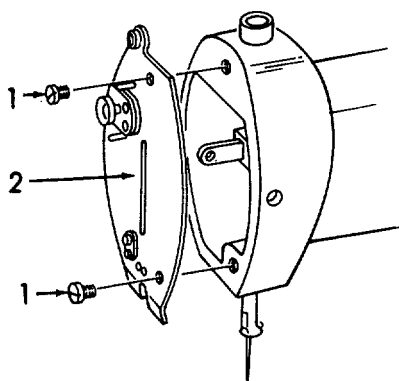

Figure 6-123. Face Plate, Removal.
a. Removal (Refer to Figure 6-123).